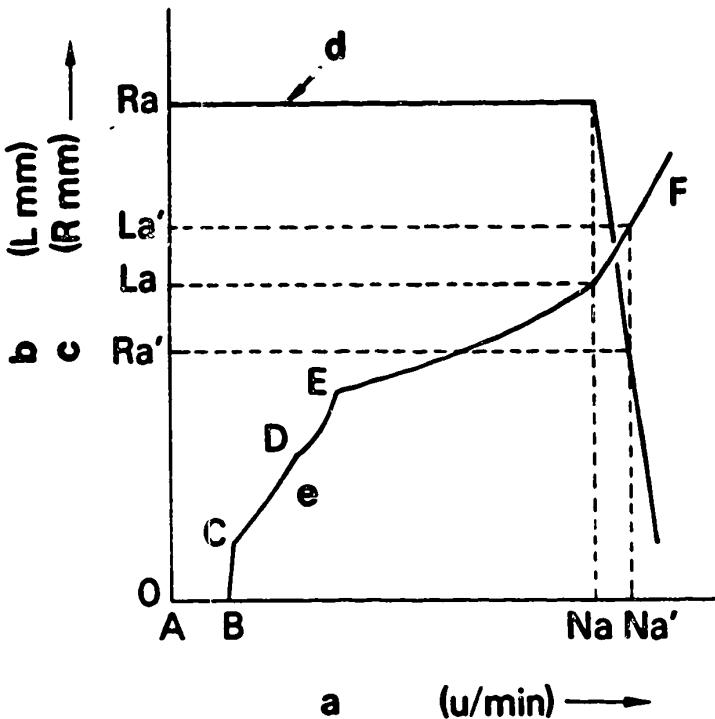
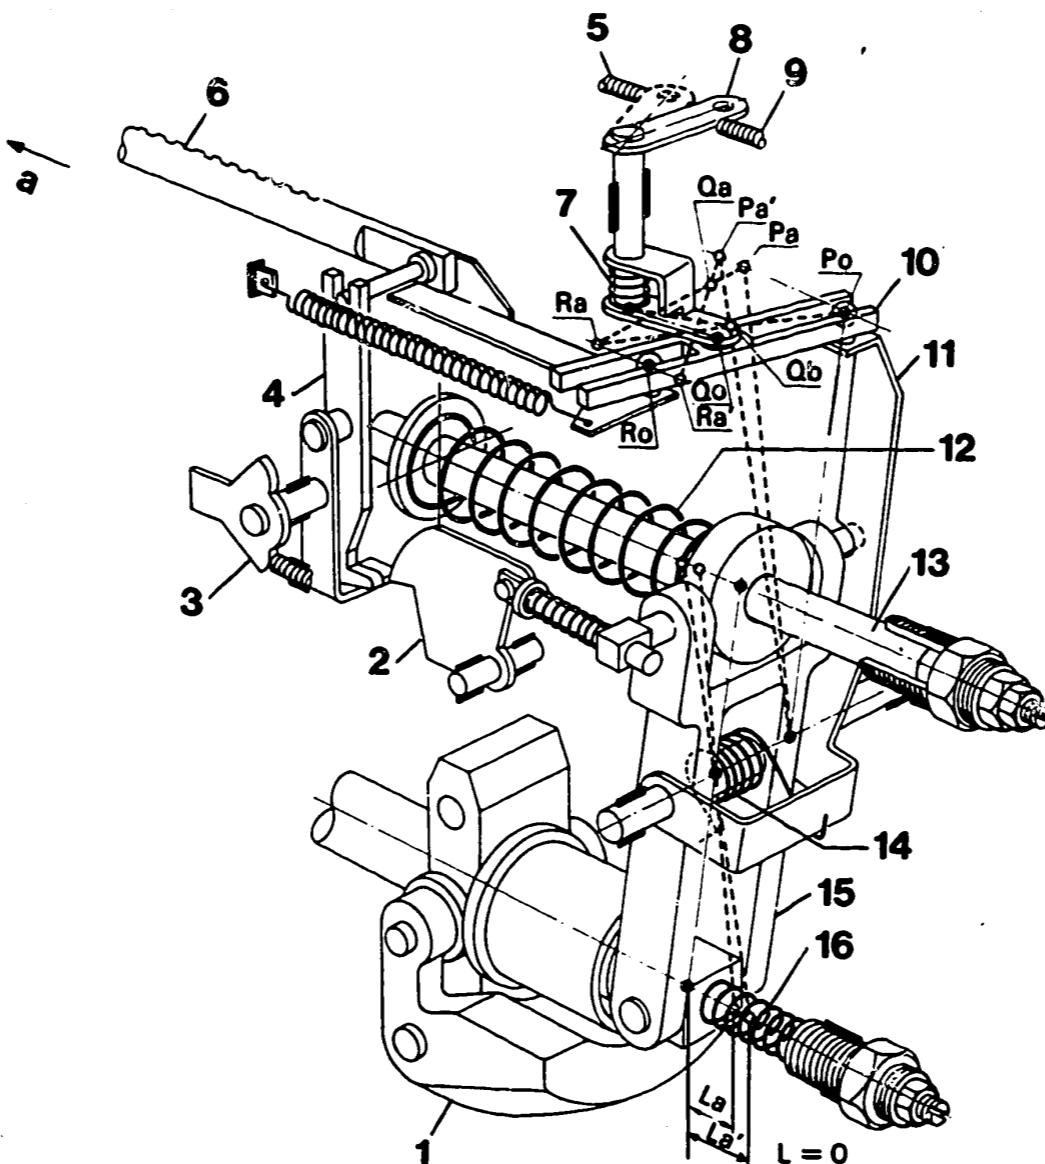

Fig. 7
Fig. 8
Unlike a standard variable-speed governor, which regulates the engine speed in line with the governor-spring force set by way of the control lever, the mechanical governor of type RLD (K) controls the engine speed by adjusting the fulcrum of the variable-fulcrum lever with the control lever. Only a very small force is required with the RLD (K) governor for operating the control lever. Fig. 7 illustrates the relationships between the injection-pump speed, the flyweight stroke and the control-rod travel. Fig. 8 shows how the mechanical RLD (K) governor works.
The idle spring and the governor spring of the RLD (K) governor do not produce any initial adjustment force; if the flyweight stroke is 0 as illustrated in Fig. 7, the initial adjustment force is provided merely by the starting spring. The deflection of the flyweights thus starts at a speed greater than the pump speed (B) which produces the centrifugal force necessary to overcome the initial adjustment force of the starting spring.
If the control lever is moved slightly out of the idle position in the direction of the maximum-speed adjusting screw and the spherical pin of the guide lever is held at "Po", the support lever causes the variable-f fulcrum lever to turn about the point "Po" if the fuel-injection pump is not in operation (solid lines in Fig. 8).